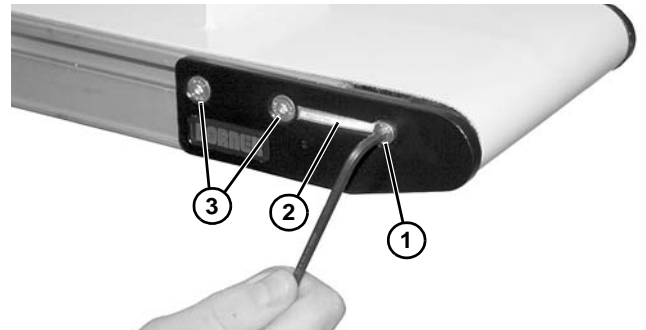

Figure 56
- On one side of the conveyor, remove screw (**Figure 56, item 1**) and remove dust cover (**Figure 56, item 2**), if installed.
- Remove two fastening screws (**Figure 56, item 3**).